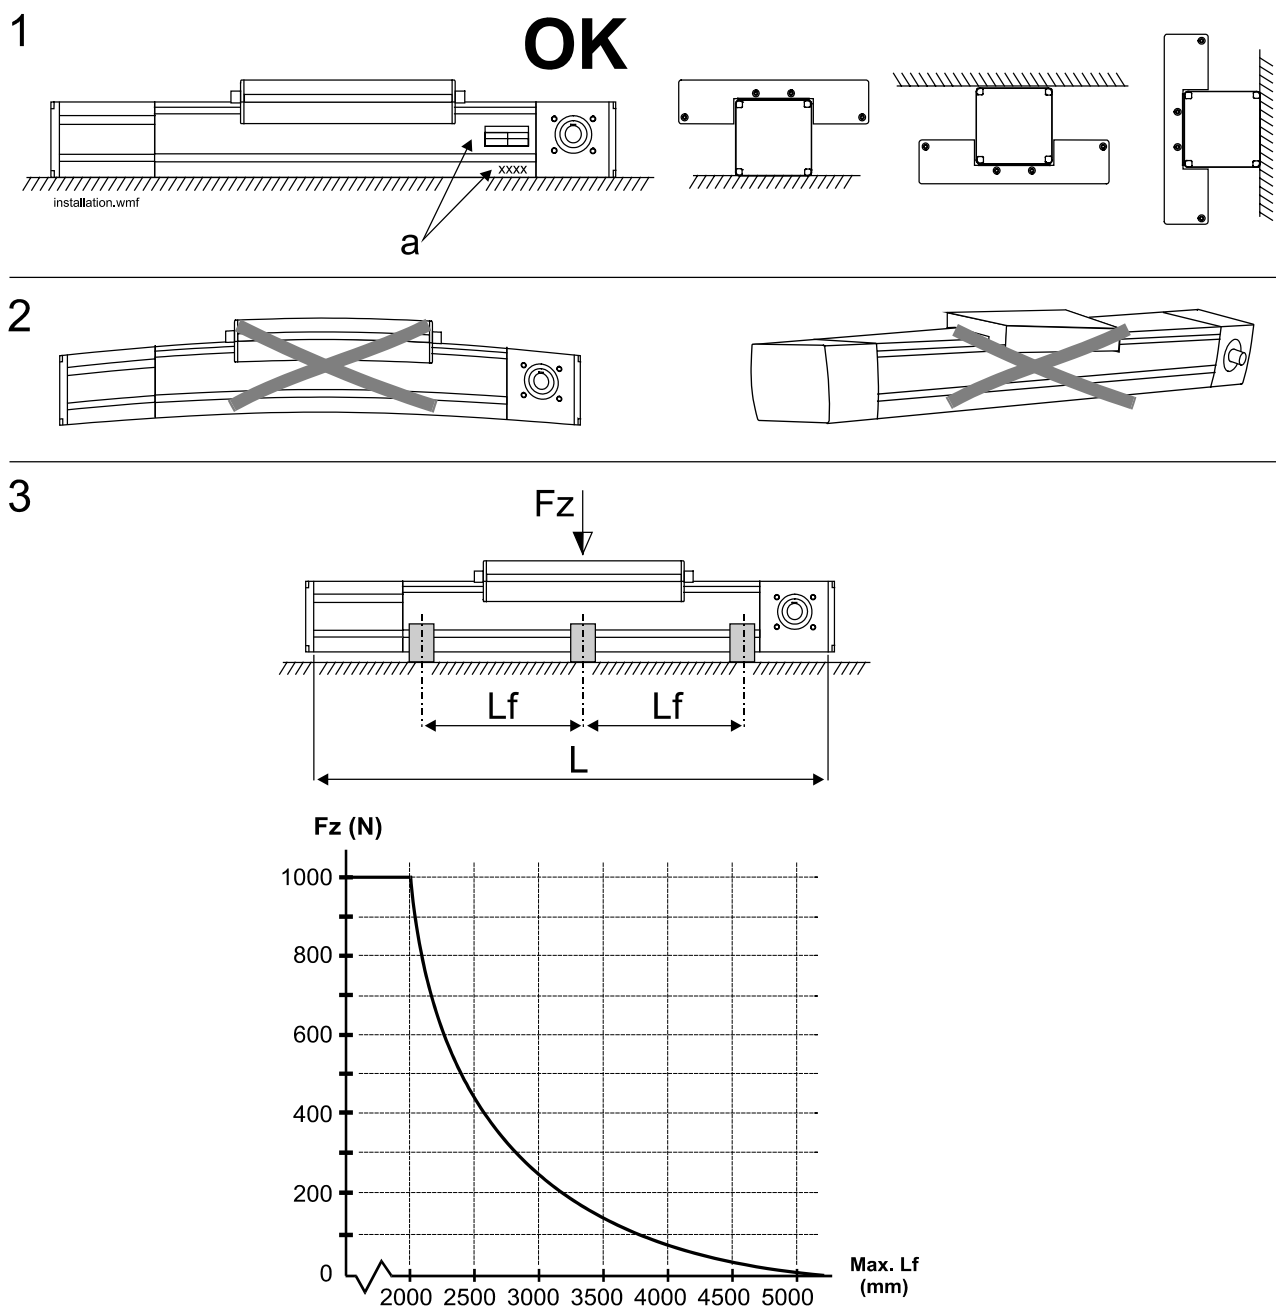

Figure 1: Mounting instructions
In order to be able to use this manual properly, it is important to understand which type of Movopart CB you have. Feel free to contact Tollo Linear if there are any doubts as to the type or if you have any other questions. When you do so, please state the manufacturing number and the type designation of the Movopart CB. See figure 1.
| Order length in cm (see measure L in figure 1).....000 – 999 | | | | | | | | | |
- Follow the recommended service intervals. Replace defective parts immediately. Only use parts of the same make and type as original. Ordering data can be found in the spare part lists supplied with the unit. Also state the manufacturing number of the unit (see figure 1).
^AL in meter, see figure 1